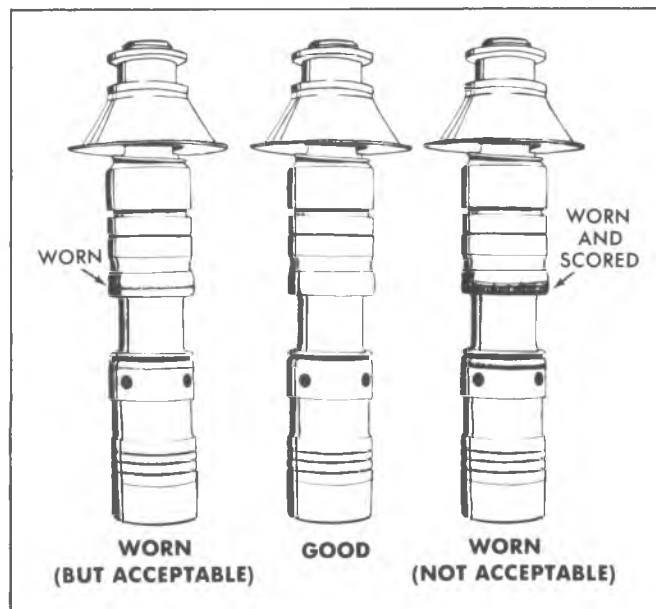

Fig. 5-4E-Spool Valve Inspection
9. Remove the input rod and piston assembly, the spool assembly and spool spring from the booster housing. Compare spool valve condition to Figure 5-4E. If spool valve is defective, the complete unit must be replaced.